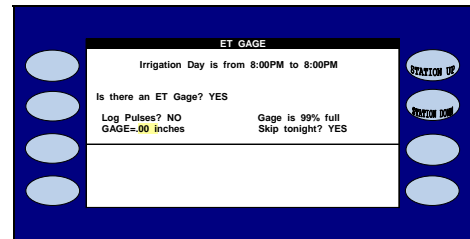

Figure 5.8
10.  Press the blue **ARROW** keys to move the cursor to the GAGE=.00 INCHES setting (Figure 5.8).